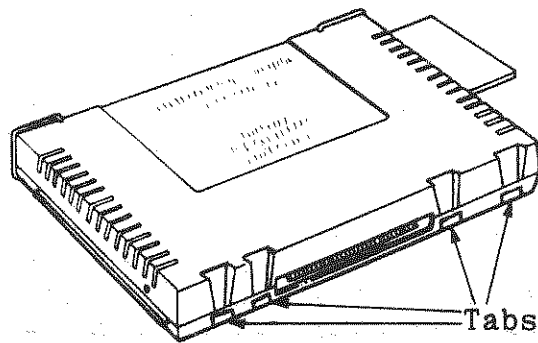
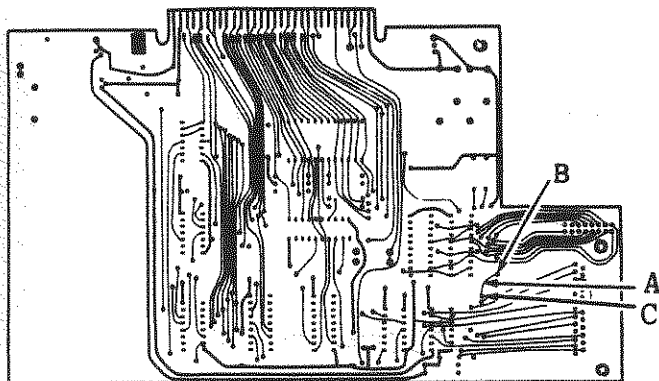
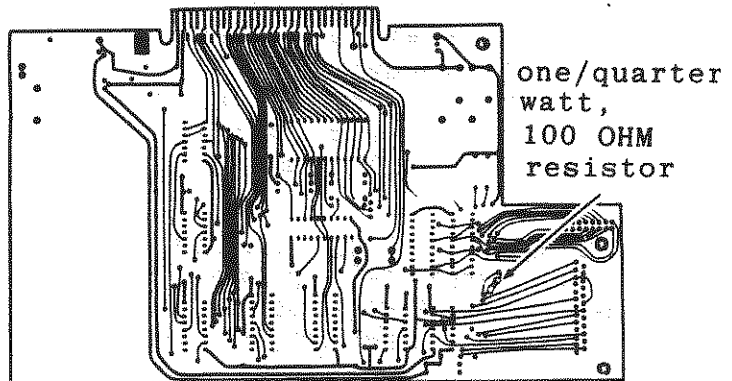

Figure 1
Figure 2
Figure 3
Proceed by pulling the RS232 interface card out of the PE box, follow all the safety precautions as described with your equipment. Before you proceed any further remember that static electricity can damage some semiconductor devices. Drain off any electrostatic charge from your body by touching a known earth ground. Make sure that your work area is free from any static electricity. As an added protection wear a discharge wrist strap device. Now locate the four plastic tabs at the bottom (card edge side) of your RS232, (see figure 1). Gently press in each of the four tabs while carefully prying the two halves apart. Once you have the card open remove the circuit board and place it on your work surface, component side down. The card edge should be away from you with the plug side to your right, (see figure 2). Locate the boomerang shaped foil track in the lower right corner of the card, (see (A) figure 2). With your sharp object scrape a path through the foil track to cut the continuity between points B & C, (see figure 2). Your last step is to solder the one/quarter watt, 100 OHM resistor between points B & C, (see figure 3), turn the card over and cut the excess wire from the resistor. Now reassemble your card and the modification is complete.